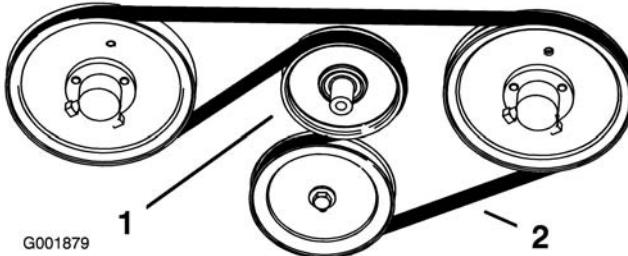

Figure 65
- Pull the spring loaded idler down and remove the traction belt from the engine and hydro pump pulleys (Figure 65). Remove the belt between the pulleys.
- Install the new belt around the engine and hydro pump pulleys (Figure 65).
- Pull the spring loaded idler down and align it below the traction belt. Release the pressure on the spring loaded idler (Figure 65).